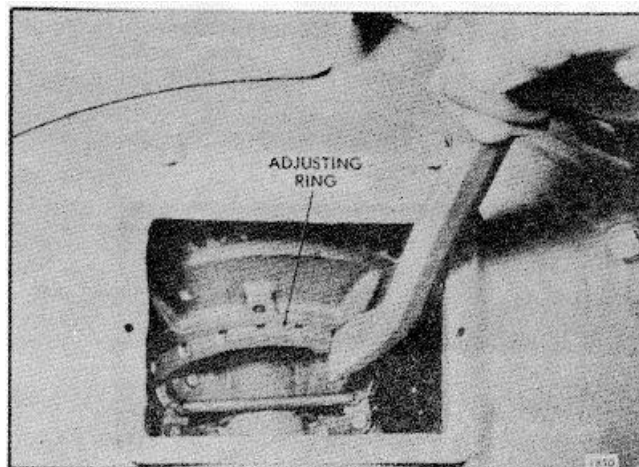

Figure 10. Adjusting Clutch
3. Remove the clutch adjusting ring spring lock screw and lock from the inner clutch pressure plate and adjusting ring. Then, while holding the clutch drive shaft to prevent the clutch from turning, turn the clutch adjusting ring counterclockwise as shown in Figure 10 and tighten the clutch until the desired pressure on the outer end of the hand lever, or at the